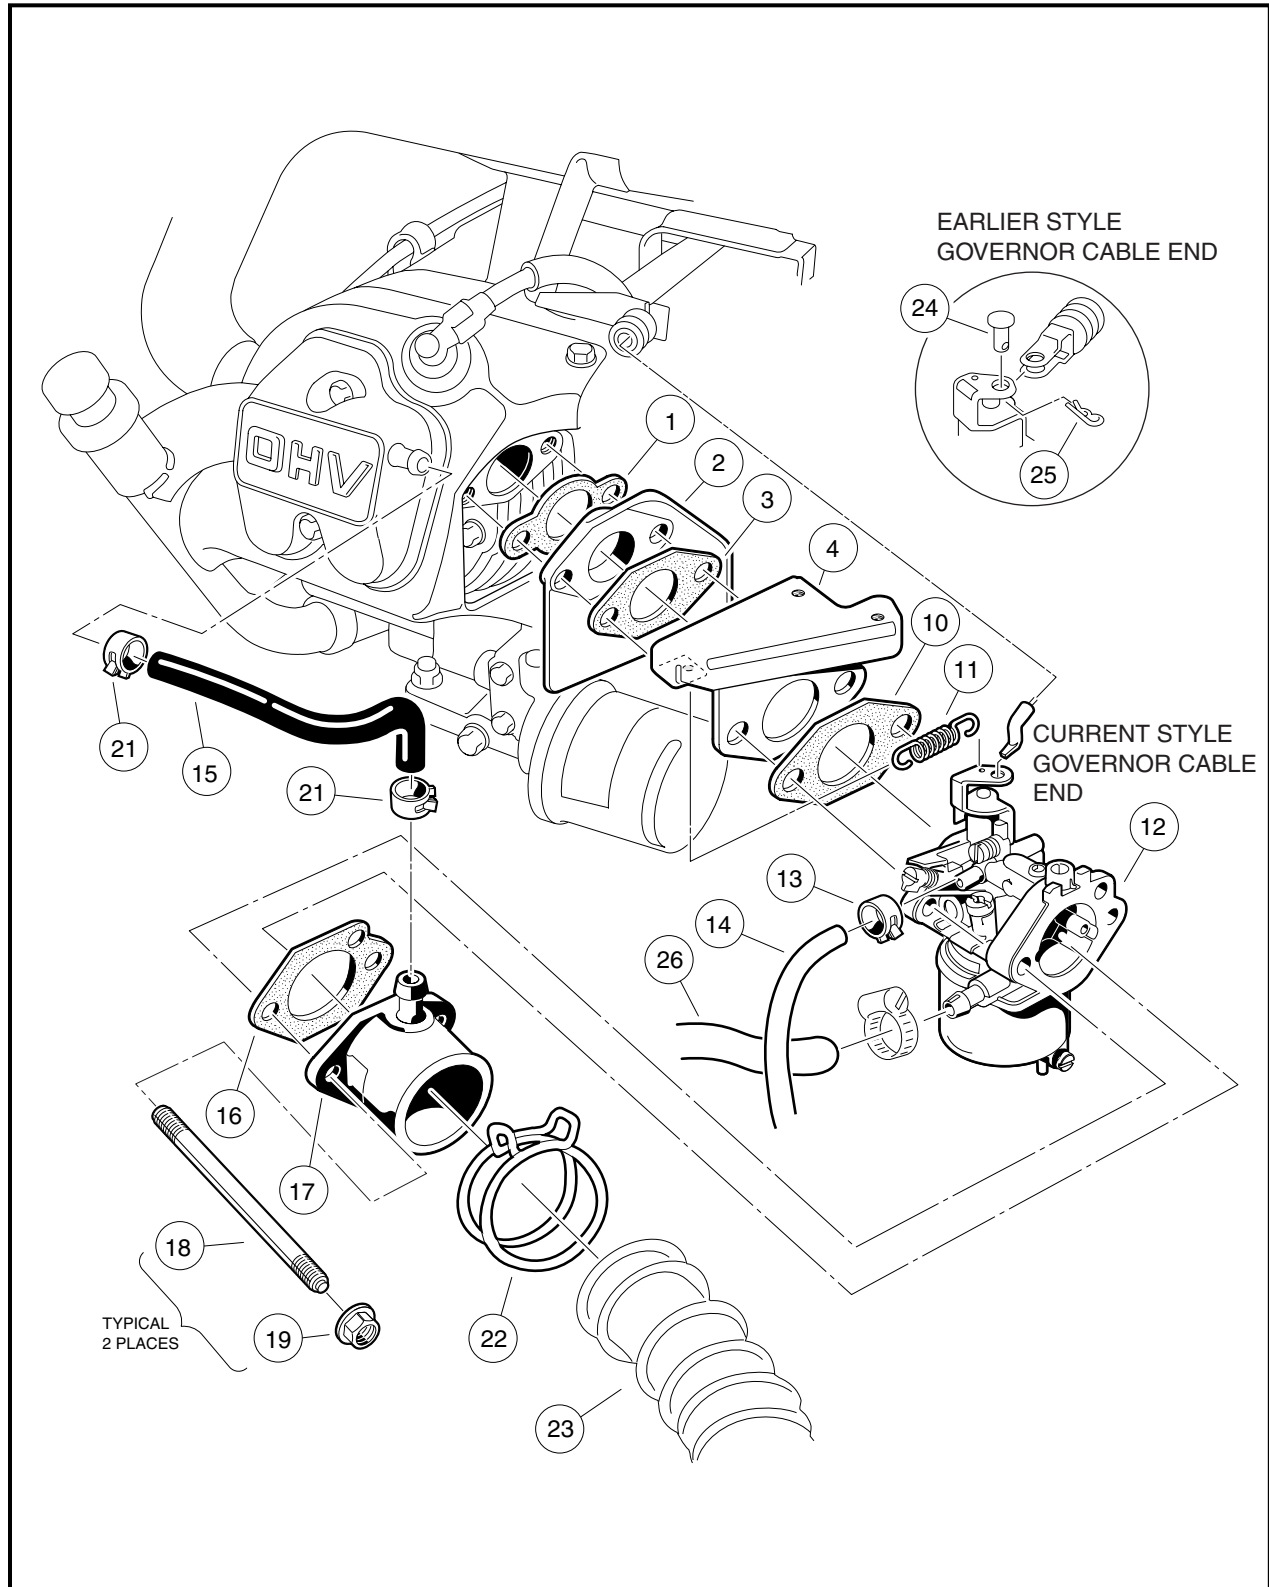

Figure 14-2 Carburetor Installation
1. Remove the carburetor (**Figure 14-2, Page 14-4**).
- 1.10. Remove the carburetor retaining nuts (19), intake pipe (17), and carburetor (12). **See following NOTE.**
**NOTE:** Note the orientation of the gasket (16), between the carburetor intake pipe (17) and the carburetor body (12) so that it can be replaced in the same orientation (**Figure 14-2, Page 14-4**).
12. Loosely attach the throttle return spring (11) to the carburetor throttle (12) and throttle bracket (4).
13. Install the carburetor (12), gasket (10), throttle spring (11), bracket (4), gaskets (1) and (3), and carburetor insulator (2) onto the manifold bolts (18) **(Figure 14-2, Page 14-4).**
14. Install the intake pipe gasket (16) (check for proper orientation) and intake pipe (17).
15. Attach the carburetor retaining nuts (19) and tighten them to 50 in-lb (5.7 N·m).
17. Connect fuel supply line (26) and tighten screw clamp to 9 in-lb (1.0 N·m) **(Figure 14-2, Page 14-4).**
18. Install carburetor vent line (14) and clamp (13).